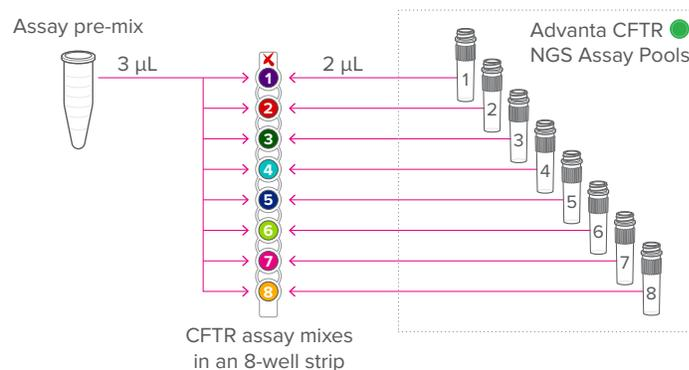

Figure 1. Preparation of CFTR assay mixes
- b Add 3 μL of assay pre-mix to each well in the strip. Pipet components according to the diagram shown in Figure 1 on page 1.